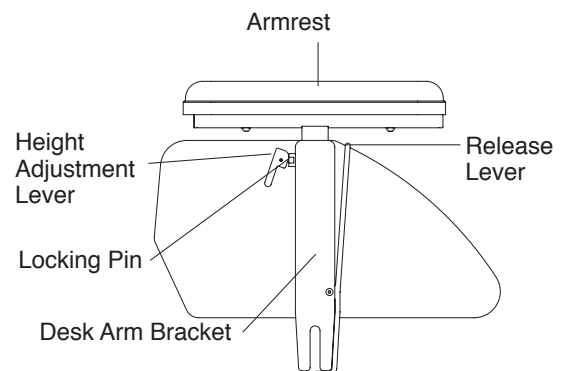

Figure 32
1. Pull up on the height adjustment lever to permit the armrest to be raised or lowered to the desired height. See Figures 32 and 33.
1. To remove the desk arm assembly, press and hold the armrest release lever. See Figures 32 and 33.